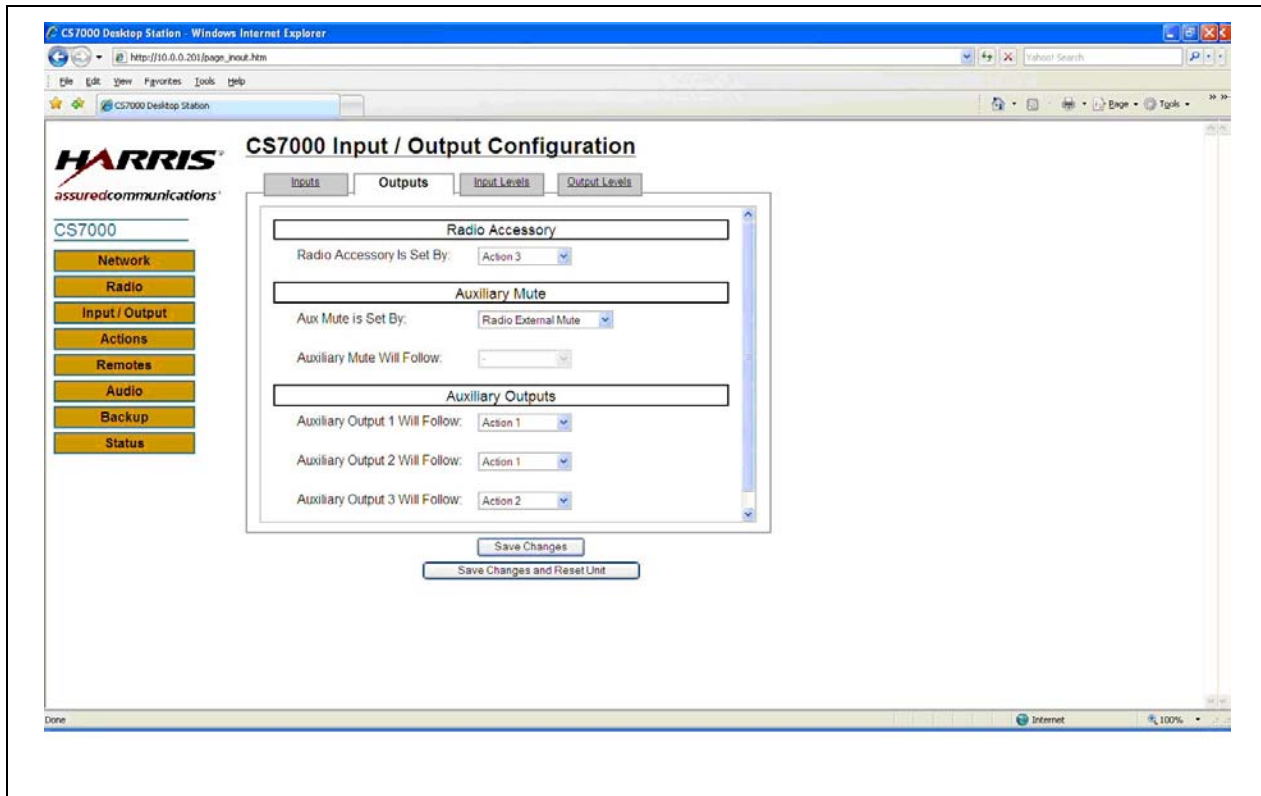

Figure 8-15: CS7000 Input/Output Configuration Web Page—Outputs Tab (Example)
2. On the CS7000 Input/Output Configuration web page's Outputs tab, assign the Remote Control (Plus) Board's Auxiliary Output 1 Will Follow pull-down list to Action 1. See Figure 8-15 on page 72.
The CS7000 Input/Output Configuration web page's Outputs tab is shown in Figure 8-15.